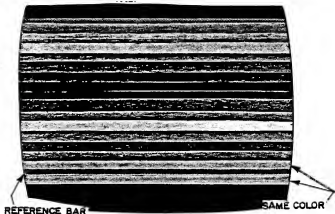

Figure 2-1. Color Bar Screen
- **Format:** A screen of horizontal color bars displays (See Figure 2-1). The screen should be steady and unchanging. A grey or blue horizontal reference line runs across the screen about three bars from the bottom. This reference line is thinner than the bars around it. R15 should be adjusted so the bars immediately above and below the reference line are essentially the same shade. Proper operation of the unit is indicated by being able to make this adjustment and by consistent color within the entire span of each bar on the screen. Leave this test on for at least ten seconds in order to catch any intermittent problems, such as a bar momentarily changing colors or blanking out.